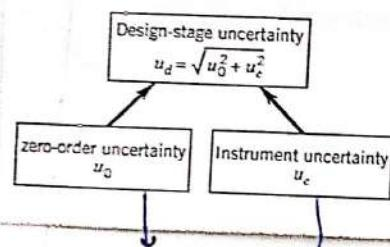

Figure 5.2 Design-stage uncertainty procedure in combining uncertainties.
**SOLUTION** We follow the procedure outlined in Figure 5.2. An estimate of the instrument uncertainty depends on the uncertainty assigned to each of the contributing elemental errors of linearity,  $e_1$ , and hysteresis,  $e_2$ , respectively assigned as
**SOLUTION** The procedure in Figure 5.2 is used for both instruments to estimate the design-stage uncertainty in each. The resulting uncertainties are then combined using the RSS approximation to estimate the system  $u_d$ .